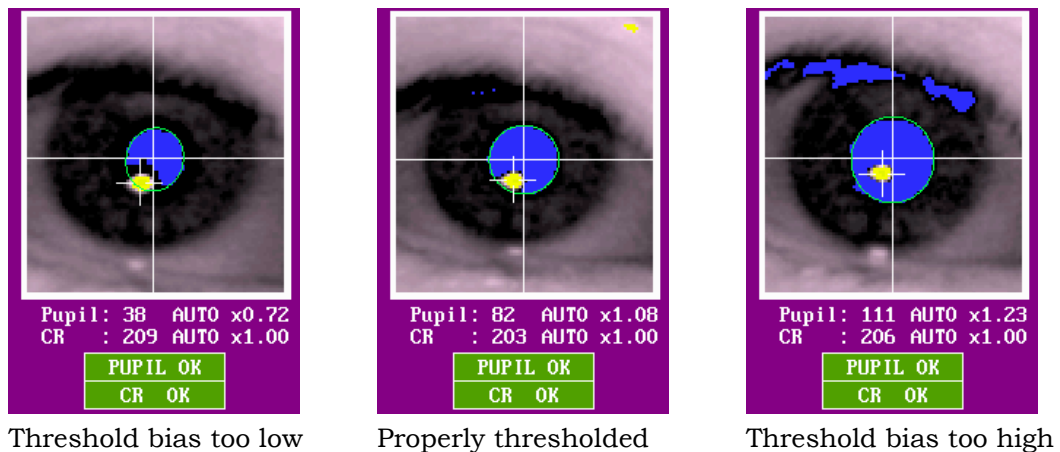

Figure 3-10: Pupil and CR Thresholds and Bias Values
12) In the zoomed camera image, the threshold values for pupil and corneal reflection are displayed under the camera image. Unlike other versions of the EyeLink 1000 eye tracker, these threshold values are automatically updated. The number beside the pupil threshold value is pupil bias – the extent to which the pupil threshold is modulated (see Figure 3-10). The user may adjust the bias using the pupil threshold adjustment buttons or with the UP and DOWN keys. Raising the bias increases pupil coverage (i.e., increasing the blue area) while lowering the bias decreases the pupil coverage (i.e., decreasing the blue area). Heuristically, pupil biases should be in the range of 0.9 to 1.1. A value around 1.05 is recommended, though this will vary depending on the eye.